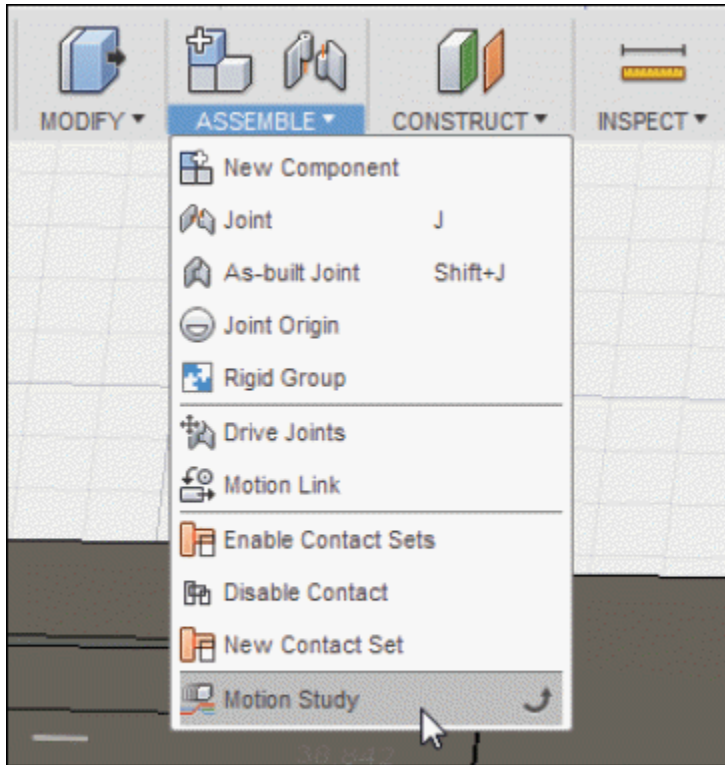
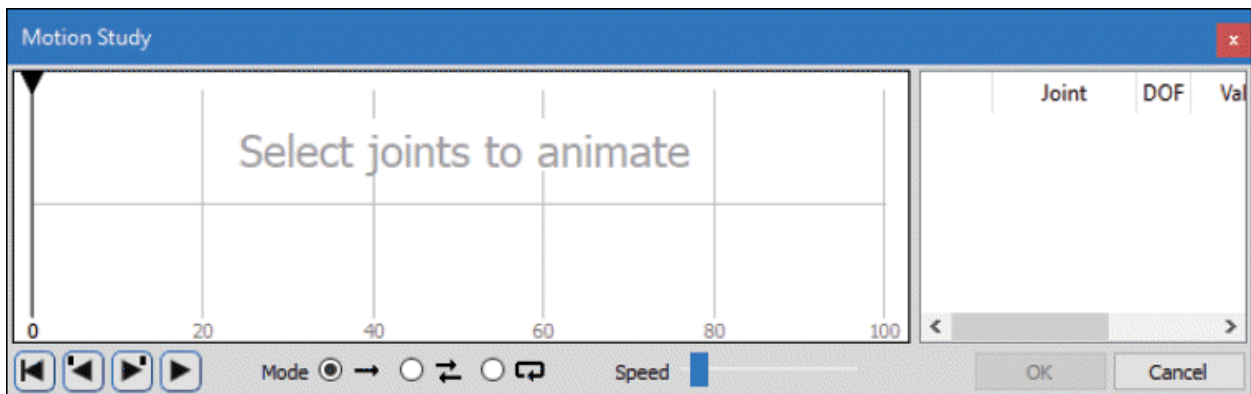

Figure-56. Motion Study tool
Figure-57. Motion Study dialog box
- Click on the **Motion Study** tool of **ASSEMBLE** drop-down from **Toolbar**; refer to Figure-56. The **Motion Study** dialog box will be displayed; refer to Figure-57.